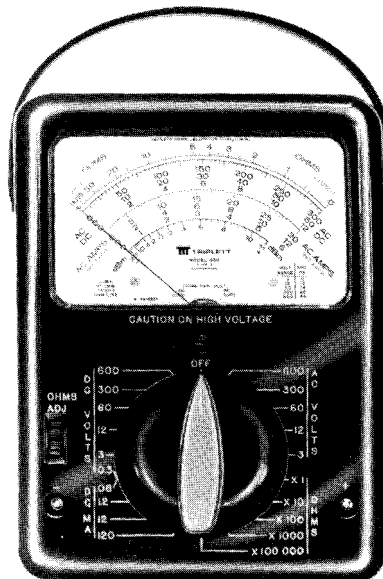

Figure 1-1 Analog voltmeter. (Courtesy of Triplett Corp.)
Analog meters contain a pointer and scale (Figure 1-1). Most of them are part of a multimeter, which has the ability to measure several different electrical quantities. Multimeters are often called V.O.M.s, which stands for volt-ohm-milliammeter. Since they are often part of a multimeter, it is generally necessary to choose the electrical quantity being measured. Most multimeters have the ability to measure both direct current (DC) and alternating current (AC). The meter shown in Figure 1-1, for example, can measure DC voltage (DCV), AC voltage (ACV), ohms (Rx1 and Rx10), and DC milliamps (DCmA). The position of the dial on the front of the meter determines the electrical quantity to be measured.
Analog multimeters can also be set to measure different ranges of voltage. The meter shown in Figure 1-1 has AC voltage ranges of 10, 50, 250, 500, and 1,000 volts. These markings indicate the full-scale value of the meter when the indicator dial is set at one of them. Being able to set the meter for different full-scale ranges greatly increases the usefulness of the meter. If the meter were set for a value of 1,000 volts, it would be very difficult to measure the voltage of a 24 volt system. If the meter were set to the 50 volt position, however, 24 volts could be measured accurately. When a voltage measurement is to be taken and the system voltage is not known, always start on the highest voltage range setting. A meter can never be hurt by connecting it to a voltage that is lower than the range setting. It is a simple thing to reset the meter to a lower range after an initial measurement has been made.